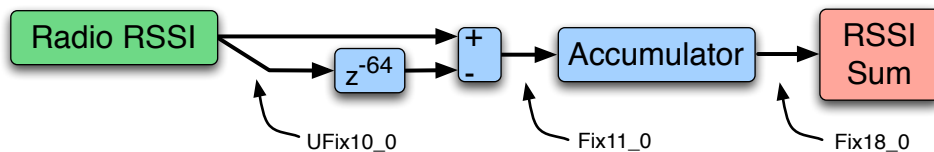
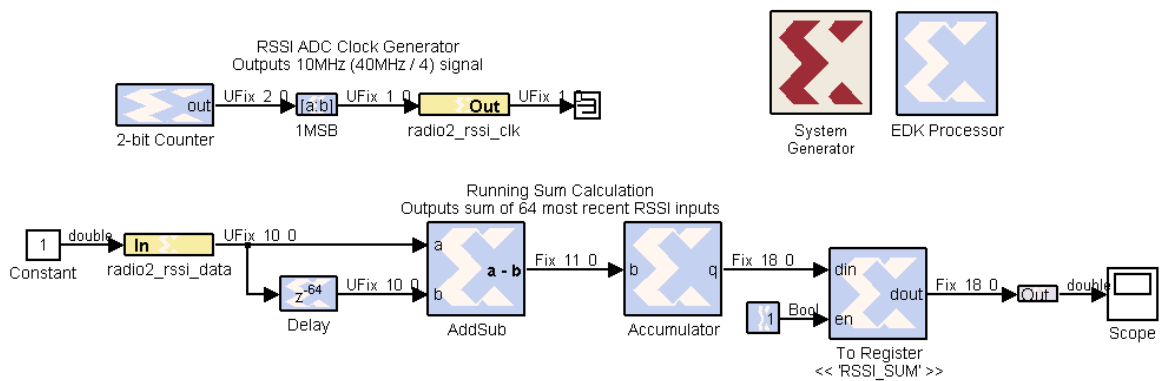

Figure 6: Block diagram of RSSI running sum calculation
Figure 7: System Generator design of running RSSI sum calculator
For this step, you'll build a simple receiver model which calculates the running sum of RSSI samples. Your model should implement the block diagram in Figure 6, which calculates the sum of the 64 most recent RSSI samples, and saves the sum to a register accessible from software.
3. This model contains just the register and RSSI ports for your design. Build the 64-length running sum using blocks from the Xilinx blockset. Figure 6 provides some suggested datatypes and blocks. A complete model is shown in Figure 7. A copy of the complete model is also saved in `.\Lab3_TxRx\sysgen_solution\`.